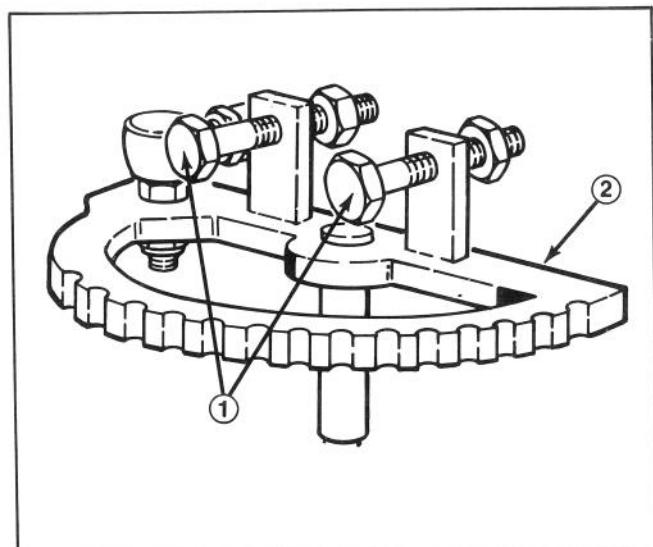

Figure 38
ADJUSTING STEERING STOPS (Fig. 38)
1. Loosen locknuts securing stop screws to tabs on steering sector (Fig. 38).